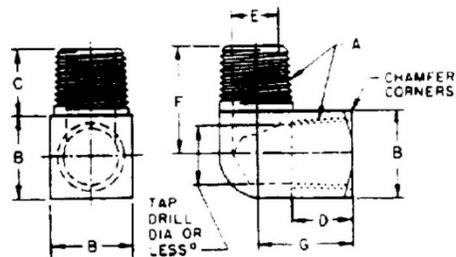

Figure 13 - 90-degree street elbow (130239)
**Table 6 - Dimensions of extruded and forged type street elbows, pipe elbows, and pipe tees (Figures 13 to 17)**
4. Hole diameter may be reduced beyond tap drill depth D but shall not be less than E specified for corresponding size. (See Figure 13.)